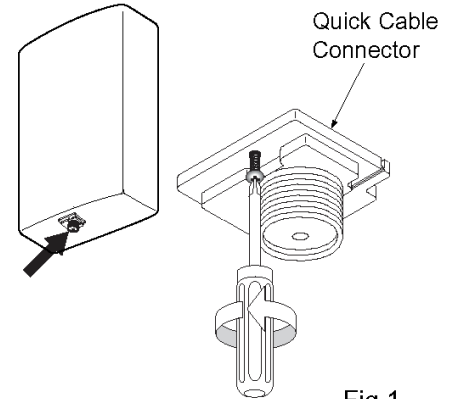

Fig.1
8. Remove a screw on the Quick Cable Connector. (Figure 1)